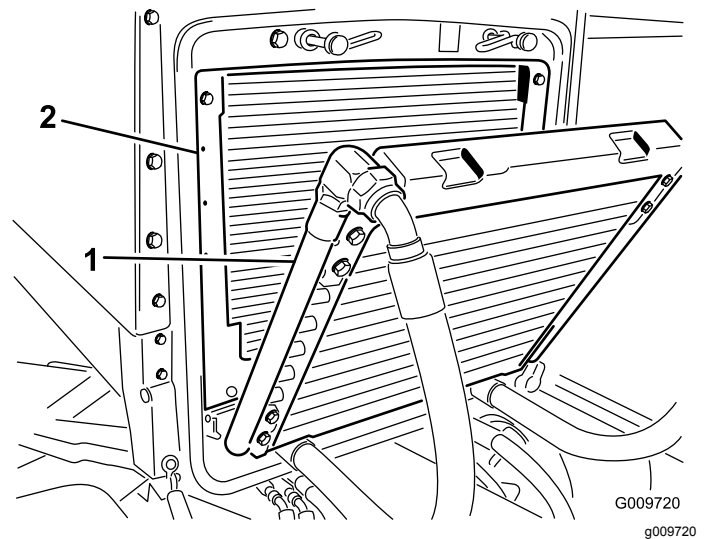

Figure 52
3. Pivot the oil cooler rearward. Clean both sides of the oil cooler and radiator area (Figure 52) thoroughly with compressed air. Start from the front and blow the debris out towards the back. Then clean from the back side and blow towards the front. Repeat procedure several times until all chaff and debris is removed.